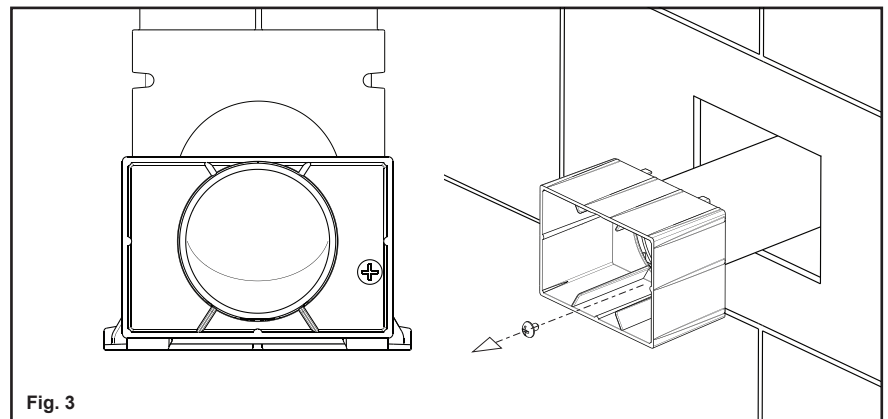

Fig. 3
3. After the tiling has been completed and the tiles are set, remove the screw from inside the tiling box, as shown in **Fig. 3**. The tiling box can then be removed and discarded.